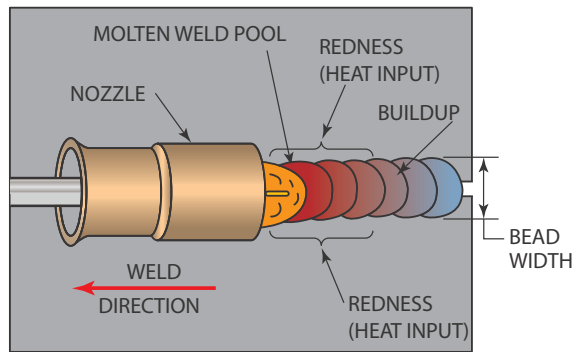

FIGURE 13-23 Watch the trailing edge of the molten weld pool. © Cengage Learning 2012
- Joint following—It is harder to follow the joint because your hand holding the FCAW gun is positioned over the joint, and you may wander from the seam, Figure 13-23.